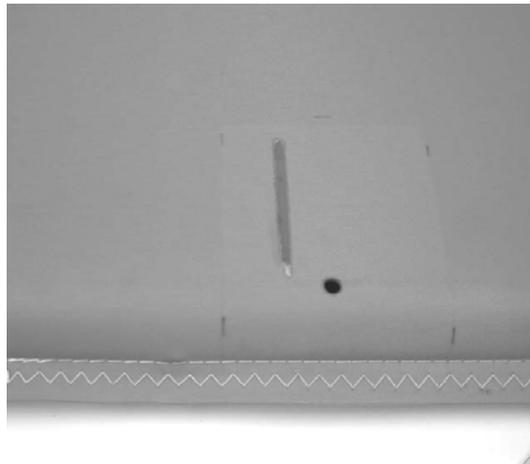

Figure 157; slot for the aileron horn in the undersurface of the aileron,
- i) Insert a 4mm bolt to hold the angle in position and using the angle as a guide burn a slot 70mm long on the under surface measured from the centre of the leading edge spar, Figure 157.